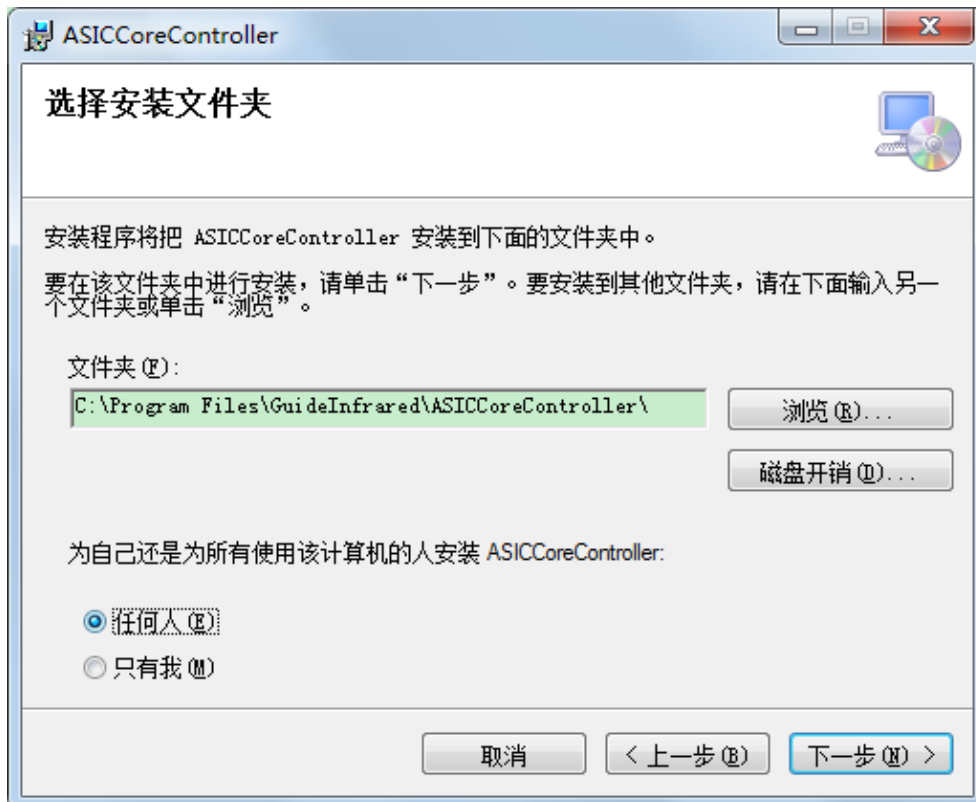

Fig. 4-2 Software installation interface 2
2. Click the button "Next" to pop up a window for selection of installation path and the installation object. After selecting the file installation path and object, click the button "Next" to proceed to the next step, as shown in Fig. 4-2.